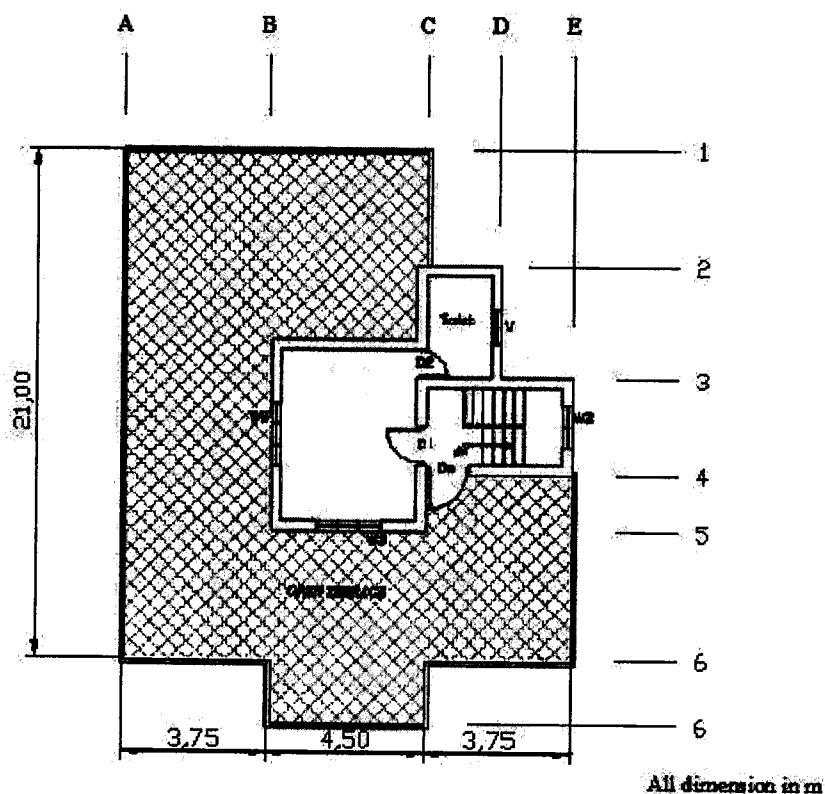

FIGURE Q3
- Q3** Figure Q3 shows an architectural drawing of first floor plan for 3 storey building. Detail specification is given as follows: